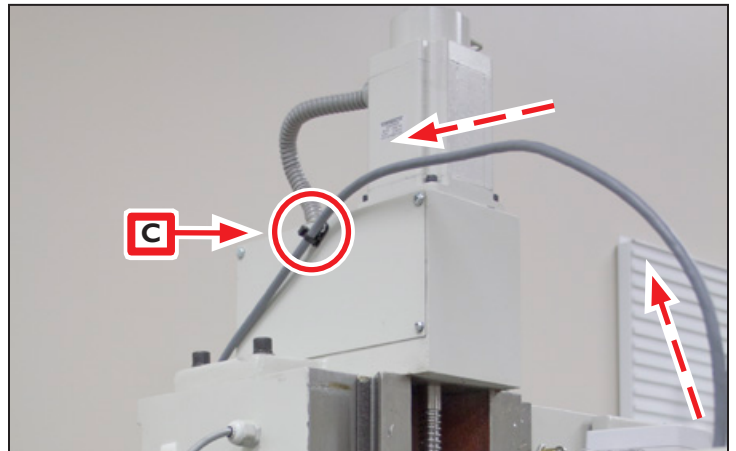

Figure 10
- If no power drawbar is installed: Holding control cable from SmartCool Head Unit in location C as shown in **Figure 10**, slowly run spindle head up and down to ensure clearance through full range of motion in Z direction. Loosen center screw on Z-axis motor mount plate; using one zip tie and one zip tie mount, attach control cable from SmartCool Head Unit (see **Figure 10**).